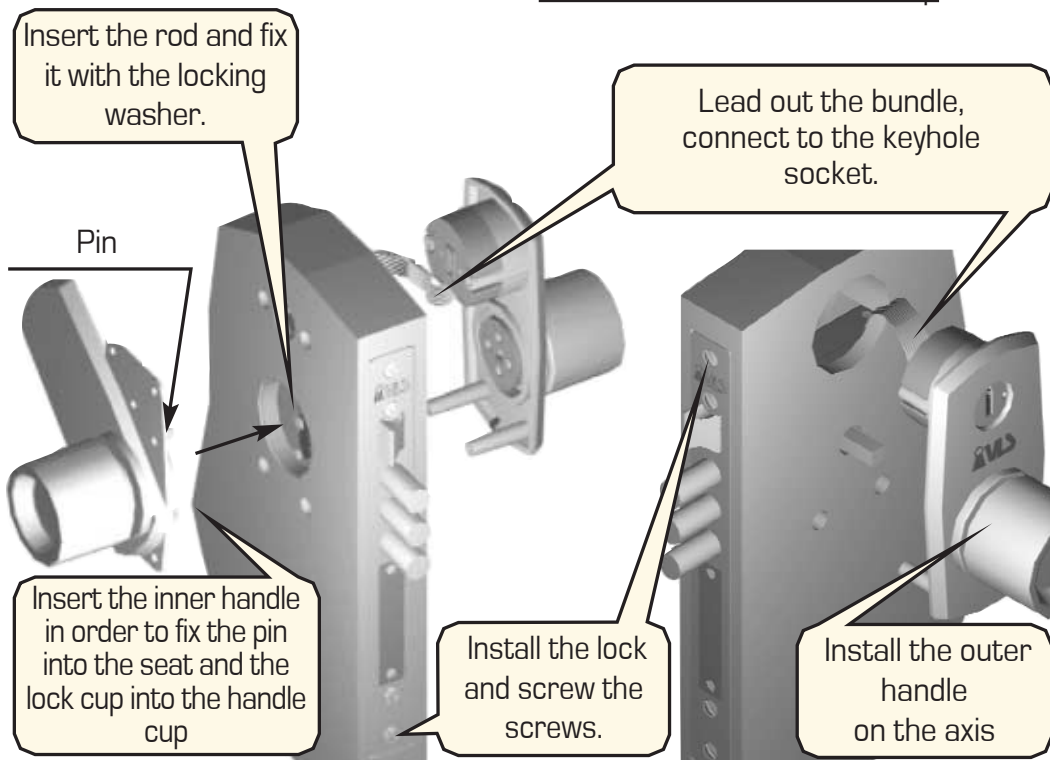

Figure 14 – Installation of the lock on the door
**15.** Install the lock into the prepared seat in the door, lead out the plug through upper hole towards the outer handle (fig. 14).